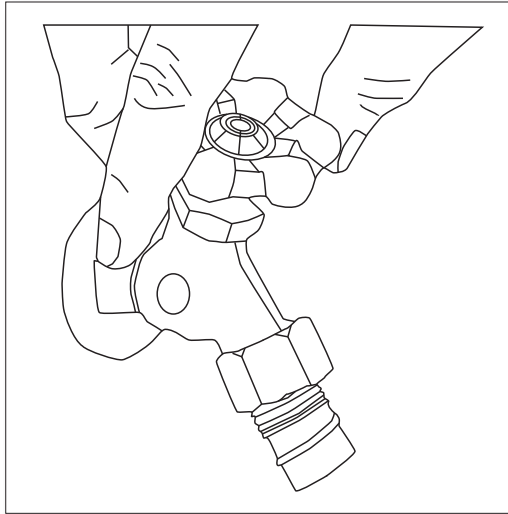

Fig. 17
***!Turn on the water supply at the faucet.* (Fig. 17)**